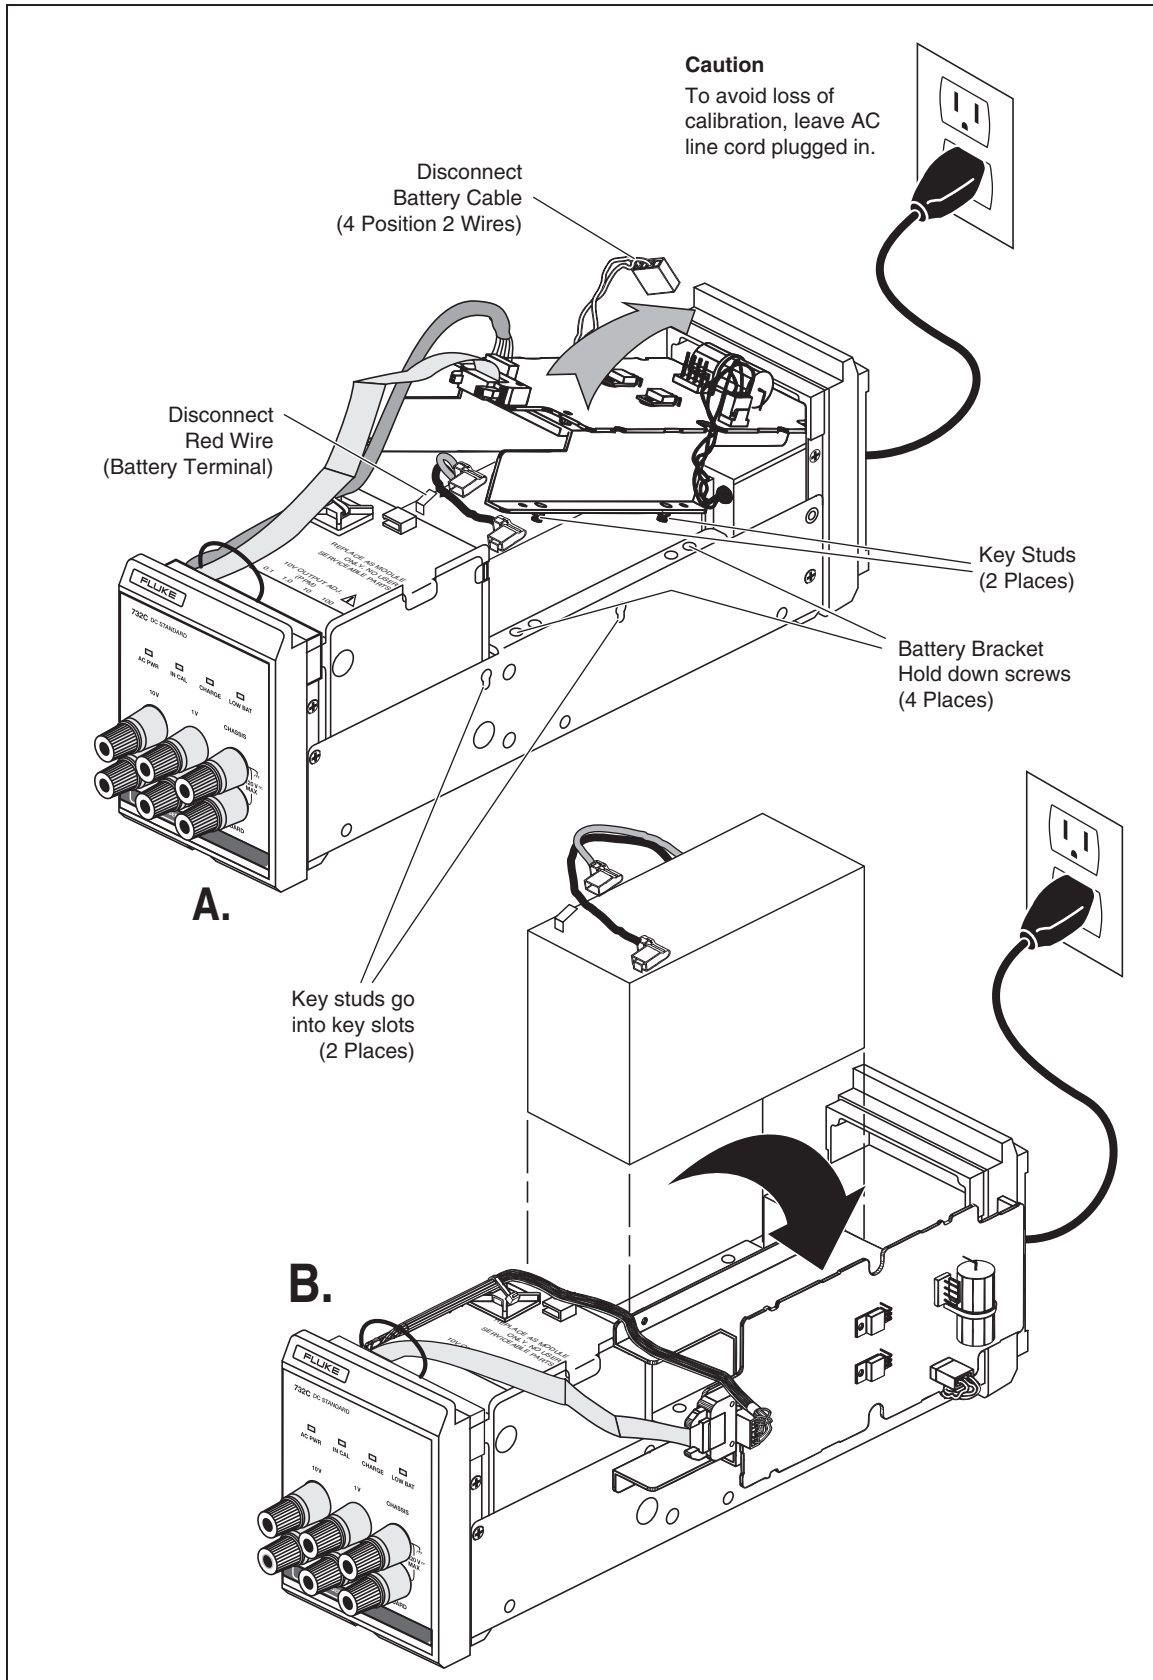

Figure 18. Replacing the Battery
The correct battery is available from Fluke Calibration by ordering Fluke Calibration P/N 887042. See Figure 18 and proceed as follows to replace the battery:
9. Lift the front edge of the battery hold-down bracket as shown in view A of Figure 18.
10. Pull the battery hold-down bracket forward until it clears the rear bezel, then rotate it 90° and position it in the keyholes as shown in view B of Figure 18.